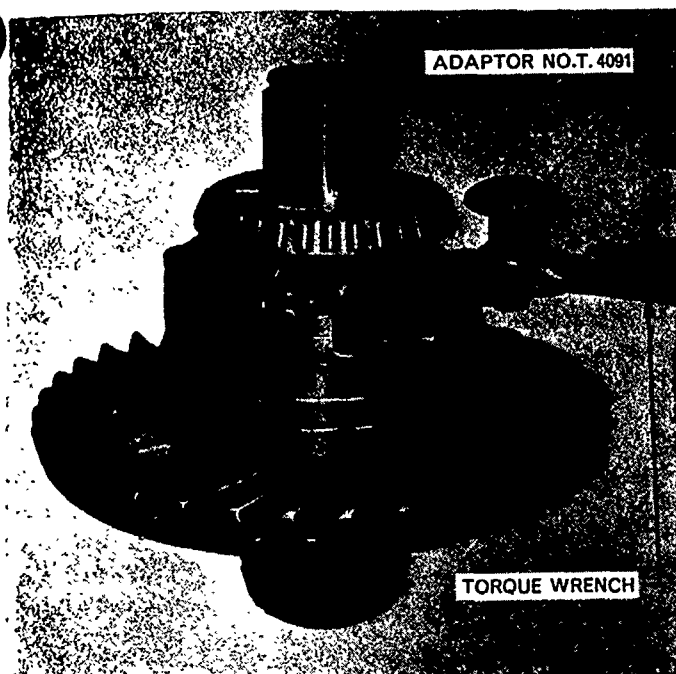

Figure 23
5. Tighten the retaining bolts to the specified torque (see Specification Section, Chapter 3). On assemblies with a differential lock use special adaptor, Tool No. T4091 or similar crowfoot adaptor, to enable a torque wrench to be used, Figure 23.